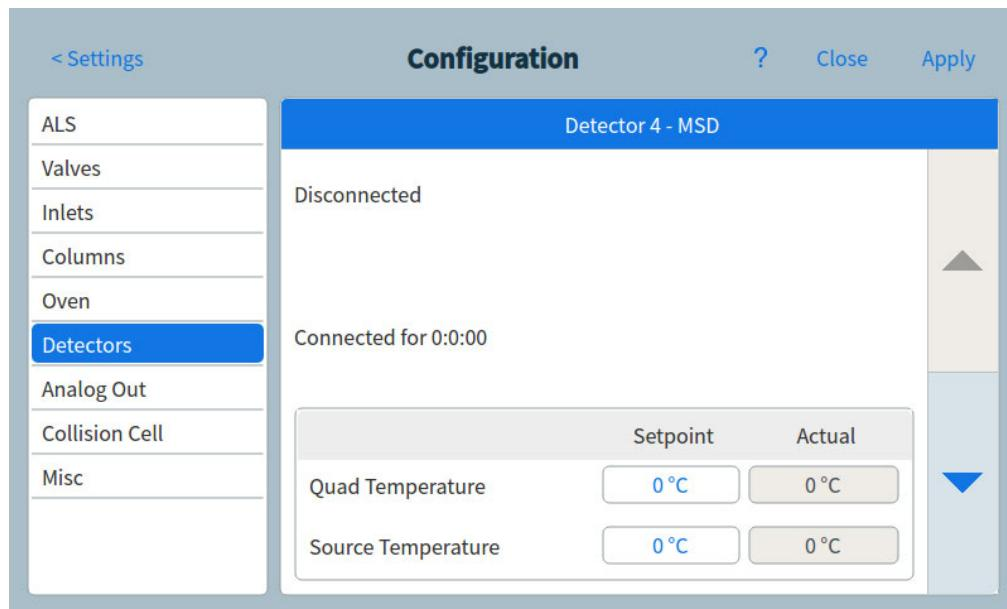

Figure 63. Detector MSD settings page
- 1 Select **Settings > Configuration > Detectors**. See **Figure 63**.